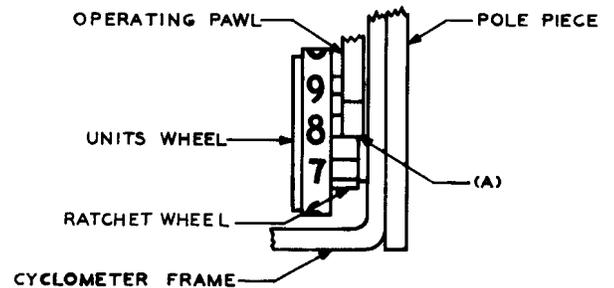

Fig. 6—Alignment of Operating Pawl (Initial Design)
(b) **Figure 6, (A):** With the register in the unoperated position and with the play in the number wheels taken up to the left, not more than 1/4 the width of the operating pawl shall extend beyond the right-hand edge of the ratchet teeth. This requirement shall be met on all teeth of the ratchet wheel.